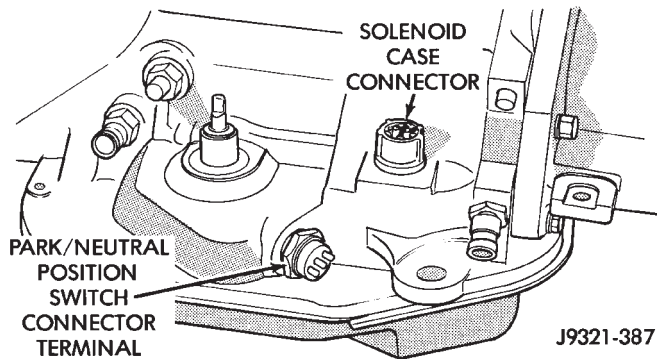

Fig. 13 Transmission Case Electrical Connector Locations
- (1) Shift transmission into Neutral.
- (2) Raise vehicle.
- (3) Remove gearshift and throttle levers from shaft of valve body manual lever.
- (4) Disconnect wires at park/neutral position switch.
- (5) Disconnect wires at park/neutral position switch and solenoid case connector (Fig. 13).